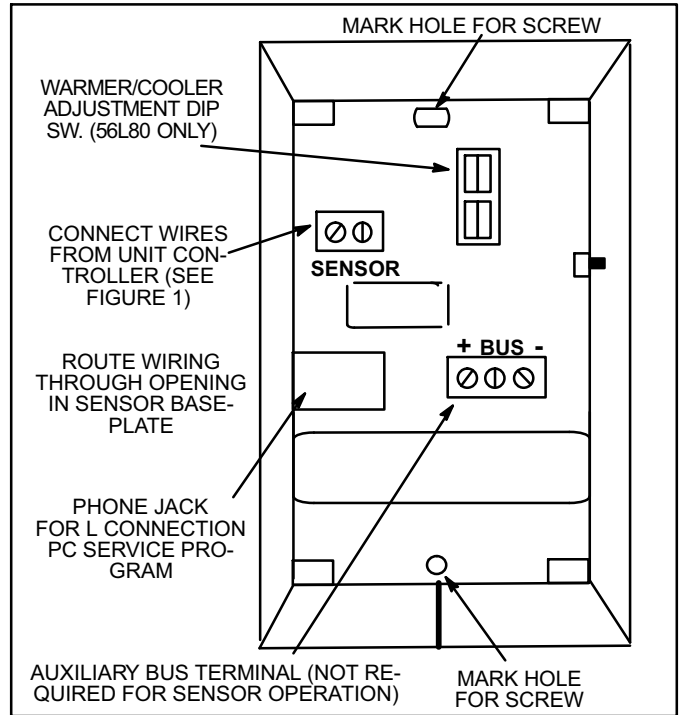
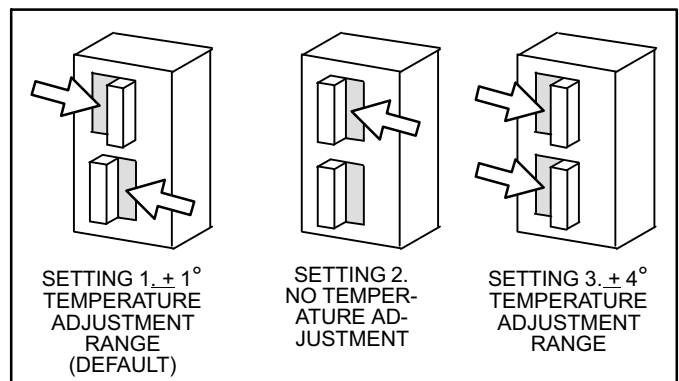

Figure 4. Zone Sensor - 56L80 and 94L60
Figure 6. Warmer/Cooler Adjustment Range
- 56L80 Only** - The sensor contains a warmer/cooler adjustment lever which allows a $\pm 1^\circ\text{F}$ setpoint shift. A DIP switch on the sensor base can be adjusted to increase the range to $\pm 4^\circ\text{F}$ or limit the range to no adjustment. See figure 4 for DIP switch location and figure 6 to change the adjustment range.